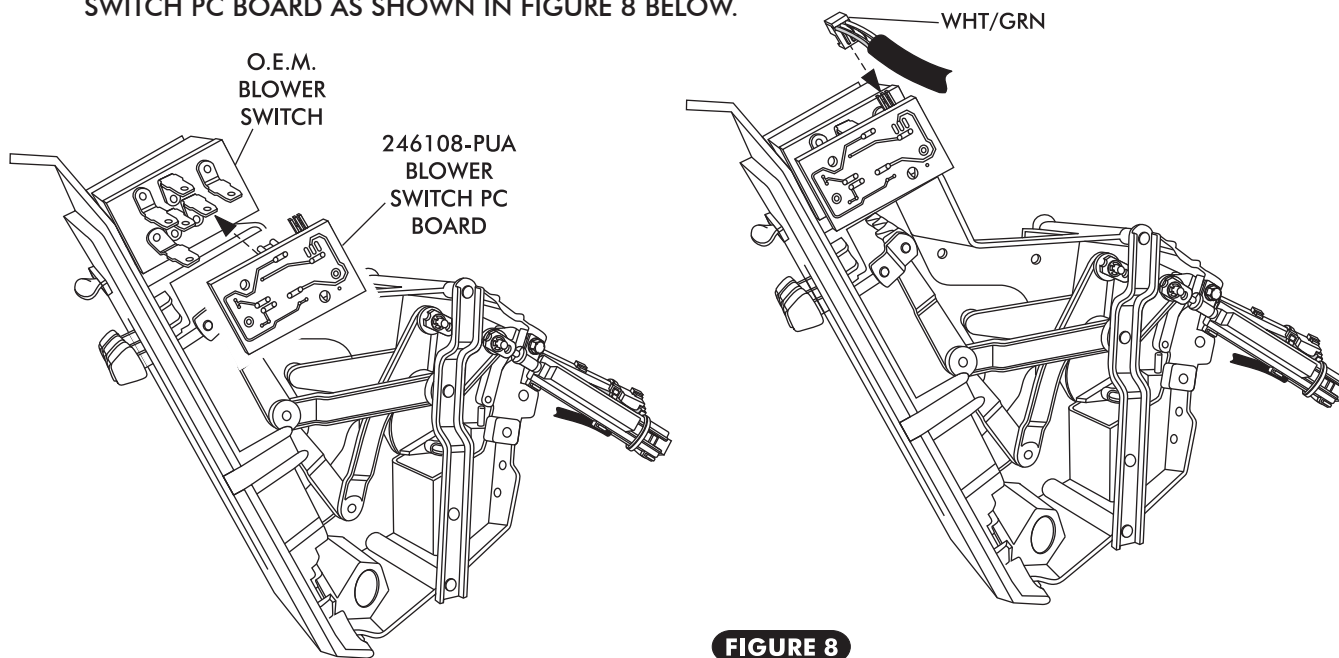

FIGURE 8
- INSTALL THE BLOWER SWITCH PC BOARD ON O.E.M. BLOWER SWITCH AS SHOWN IN FIGURE 8 BELOW.
- PLUG IN THE REMAINING CONNECTOR WITH THE RED, WHT/ GRN & WHT WIRES INTO THE BLOWER SWITCH PC BOARD AS SHOWN IN FIGURE 8 BELOW.